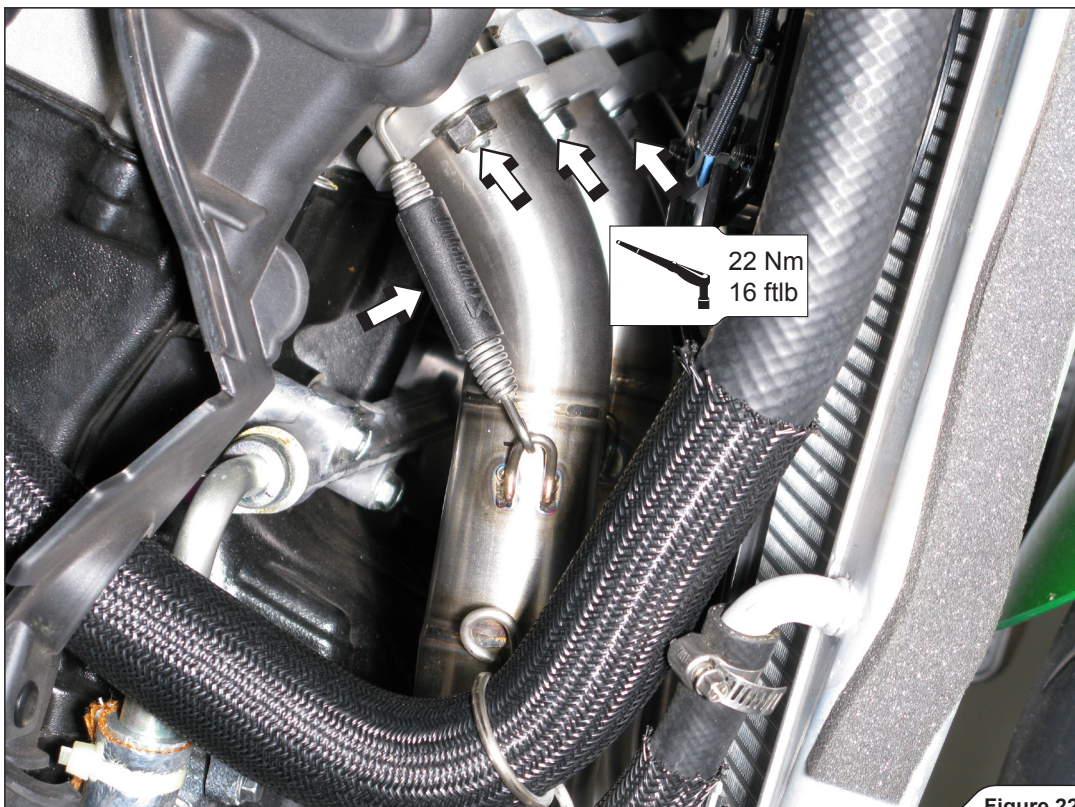

Figure 22
4. **For Optional Headers only:** insert the headers/collector assembly into the sleeves, attach springs and tighten the flanges to specified torque (**Figure 22**).